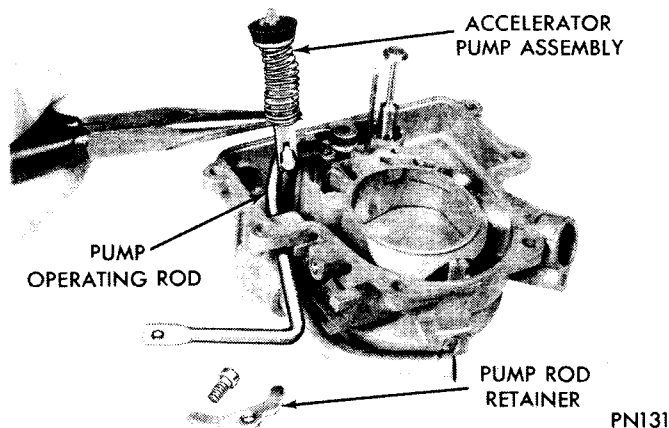

Fig. 12—Removing or Installing Accelerator Pump
(6) Remove the accelerating pump operating rod retainer screw and retainer.
(7) Rotate the pump operating rod and disconnect the pump drive spring and accelerating pump assembly (Fig. 12). Set the pump stem and cup aside. Do not immerse it in cleaner.